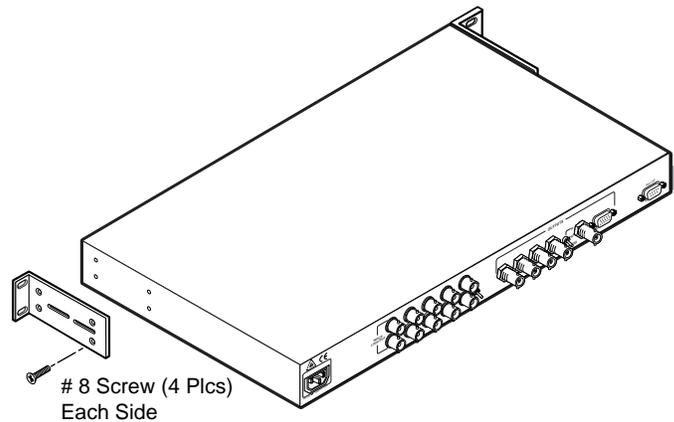

Figure 4 — Installing mounting brackets
1. Attach the mounting brackets (supplied with the scaler) on either side of the scaler, as shown in figure 4. Use four screws per mounting bracket.